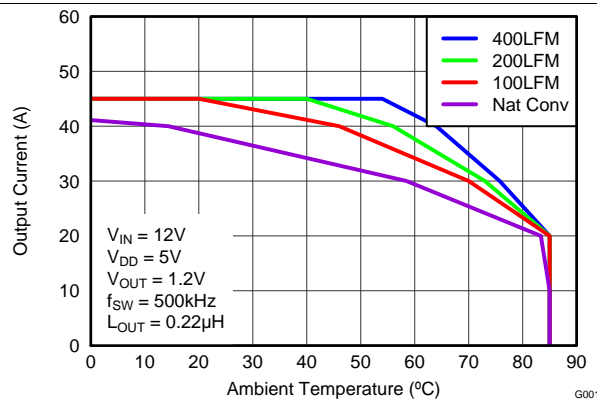
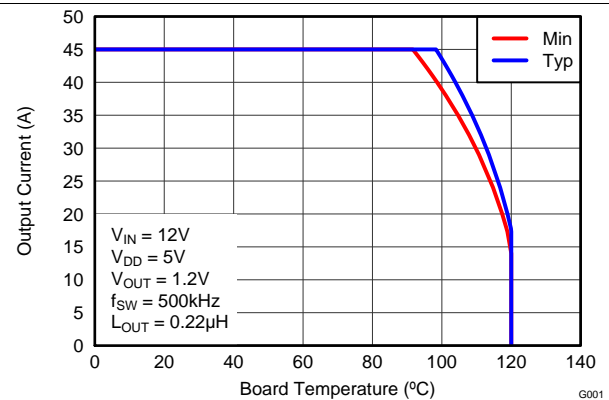

Figure 4. Safe Operating Area (SOA)– PCB Horizontal Mount⁽¹⁾
Figure 5. Typical Safe Operating Area (SOA) ⁽¹⁾
The SOA curves in the CSD95373AQ5M data sheet give engineers guidance on the temperature boundaries within an operating system by incorporating the thermal resistance and system power loss. Figure 4 and Figure 5 outline the temperature and airflow conditions required for a given load current. The area under the curve dictates the safe operating area. All the curves are based on measurements made on a PCB design with dimensions of 4" (W) \times 3.5" (L) \times 0.062" (T) and 6 copper layers of 1 oz. copper thickness.